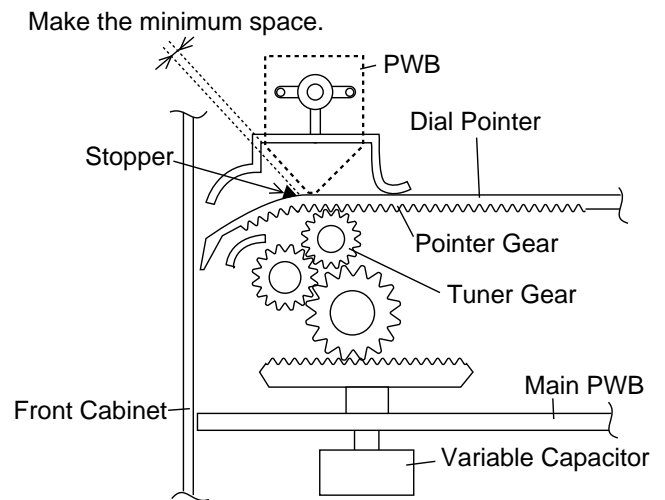
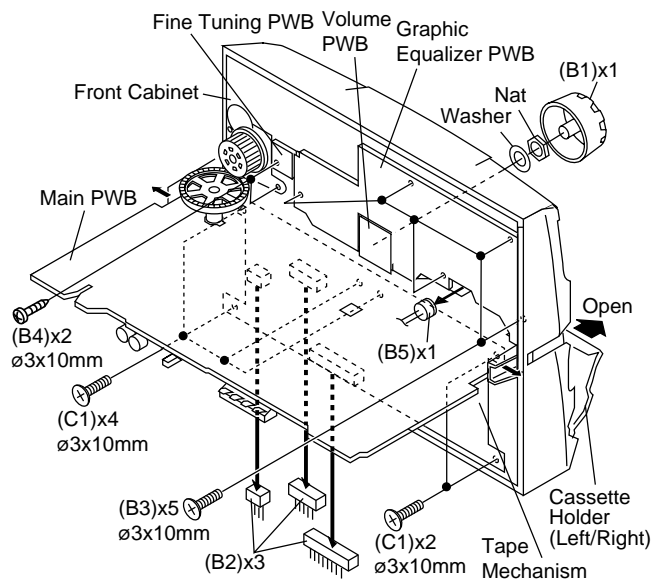

Figure 4-2
Figure 5-2
1. Remove the Main PWB, the Graphic Equalizer PWB, the Volume PWB and the Fine Tuning PWB. (See Figure 5-2 in the "Disassembly" on page 5.)
3. Insert the dial pointer from (A), lead it under (B), hang it on the tuner gear and then pass it through (C).
6. Adjust the dial pointer so that its stopper becomes the Figure 4-2 position. (Adjust the engagement of the pointer gear and the tuner gear to get the minimum space between the PWB and the stopper.) This position is the "0" point.